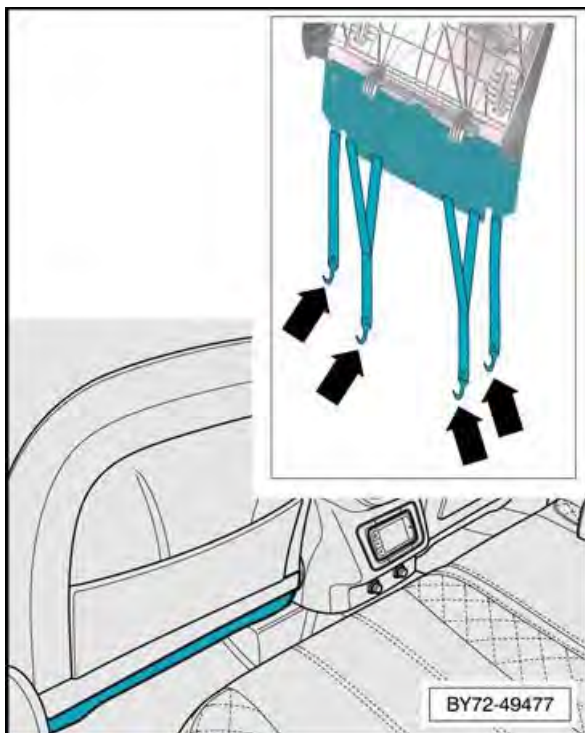

Figure 12
4. Unclip the four elasticated clips—arrows- from the underside of the seat—take note of the position of the clip anchor points to aid installation (see Figure 12)